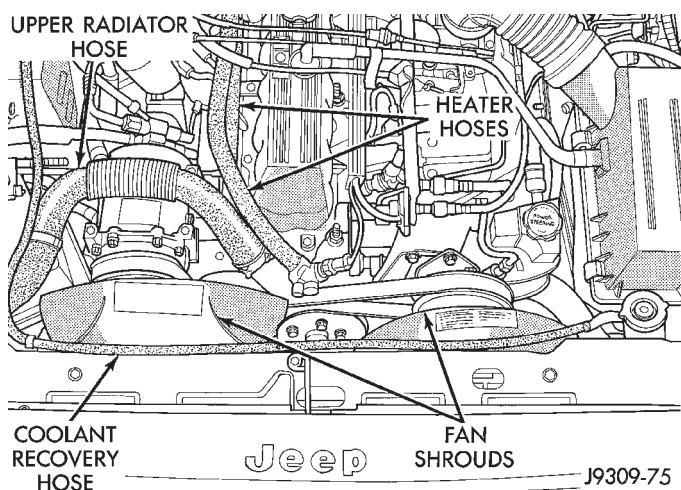
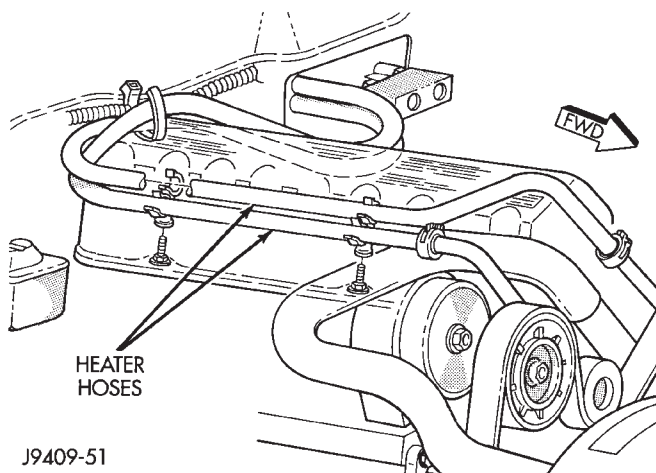

Fig. 29 Upper Radiator Hose, Coolant Recovery Hose, Fan Shroud & Heater hoses
Fig. 30 Heater Hoses (RH Drive Vehicle)
(6) Remove the upper radiator hose and coolant recovery hose (Fig. 29).
(7) Remove upper radiator support retaining bolts and remove radiator support.
(8) Remove the fan shroud (Fig. 29) and electric cooling fan.
(9) Disconnect the transmission fluid cooler tubing (automatic transmission).
(10) Disconnect radiator fan switch wire connector.
(11) Vehicles with Air Conditioning:
(12) Remove the radiator or radiator and condenser (if equipped with A/C).
(13) Remove the fan assembly from the idler pulley.
(14) Disconnect the heater hoses at the engine thermostat housing and water pump (Fig. 29) (Fig. 30).